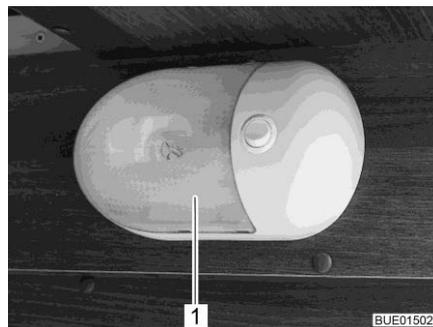

Fig. 195 Surface mounted light
- Carefully push the transparent cover (Fig. 195,1) together from both sides, pull it lightly from the switch and pull it off forwards.